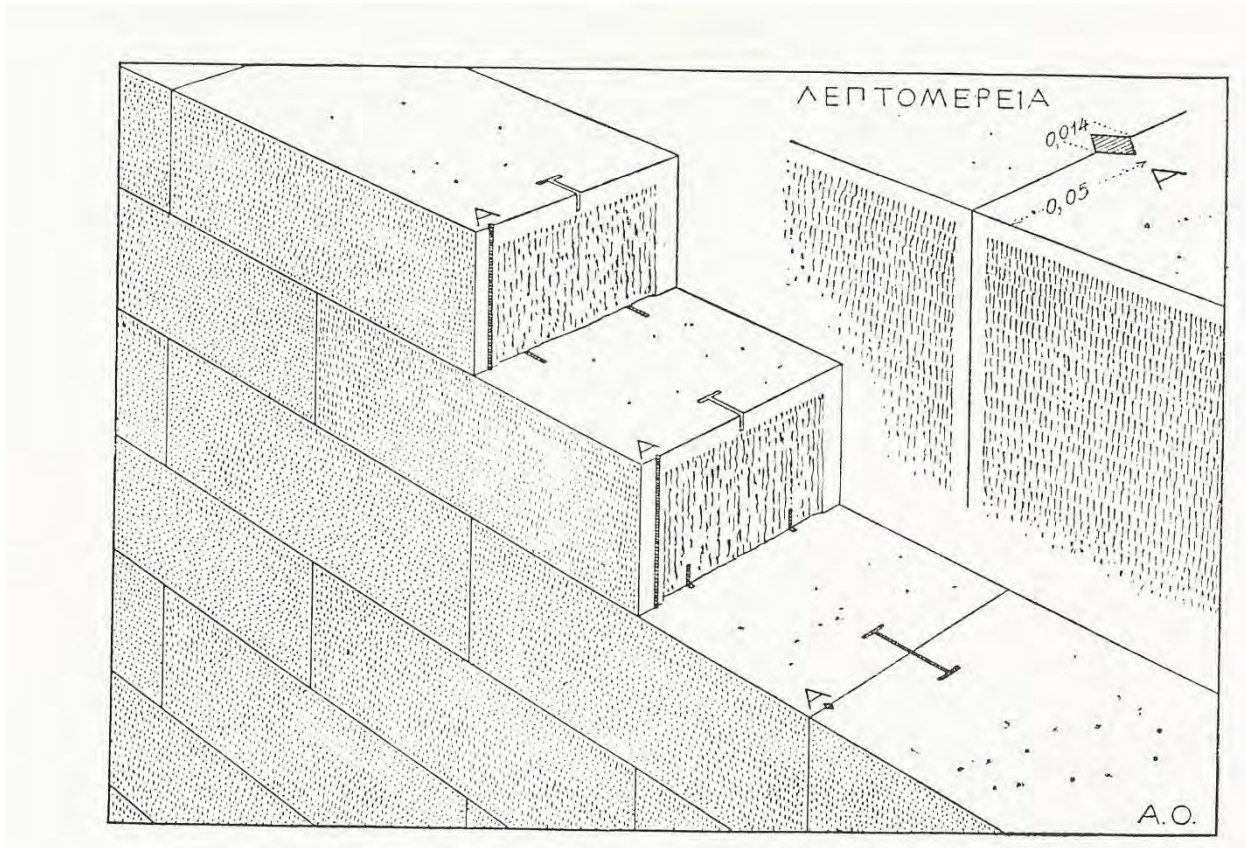

Fig.35. Systematic connections of consecutive blocks, and water tightness achieved by means of infused melted lead, (Orlandos)
- Stone-to-stone connections, (Fig. 35)